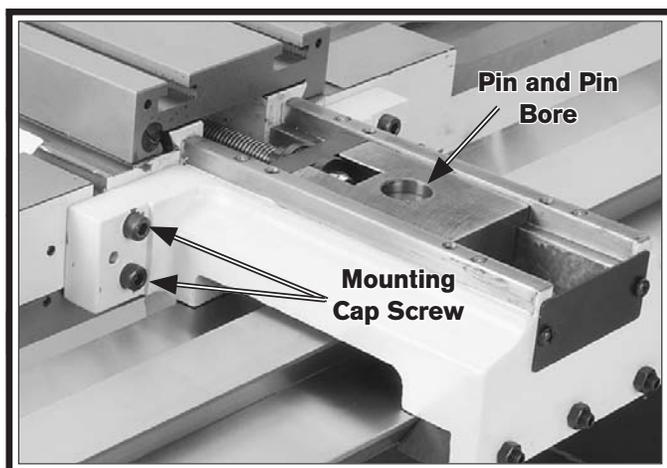

Figure 12. Taper attachment installation.
18. With the help of an assistant, raise the taper attachment underneath the slide block, so the pivot pin slides into the pin bore in the slide block (see **Figure 12**).
19. With your assistant aligning the taper attachment mounting holes, use an 8mm hex wrench to tighten the four mounting cap screws and secure the taper attachment to the carriage face (see **Figure 12**).